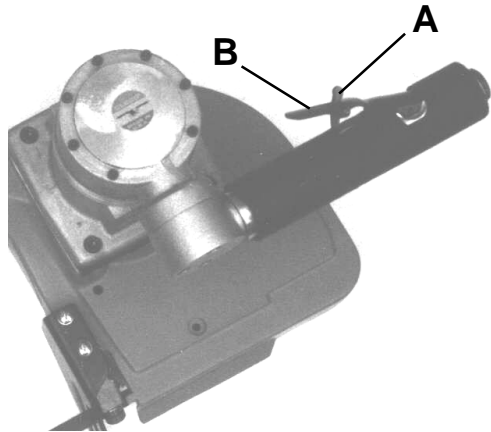

Fig. 1
Connect air supply. Push the lock-off device forward (A), Fig. 1, and depress the throttle lever (B), Fig. 1, to start the saw. Releasing throttle lever will stop saw.